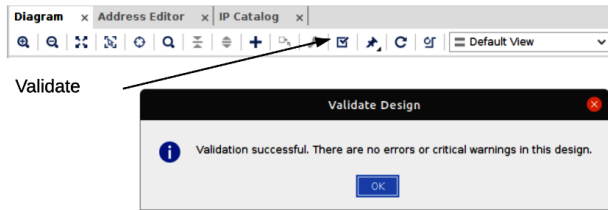

Figure 7.18 – Validate Design
- Finally, we need to create the HDL wrapper, which will become the top level of our design (refer to *Figure 7.18*):